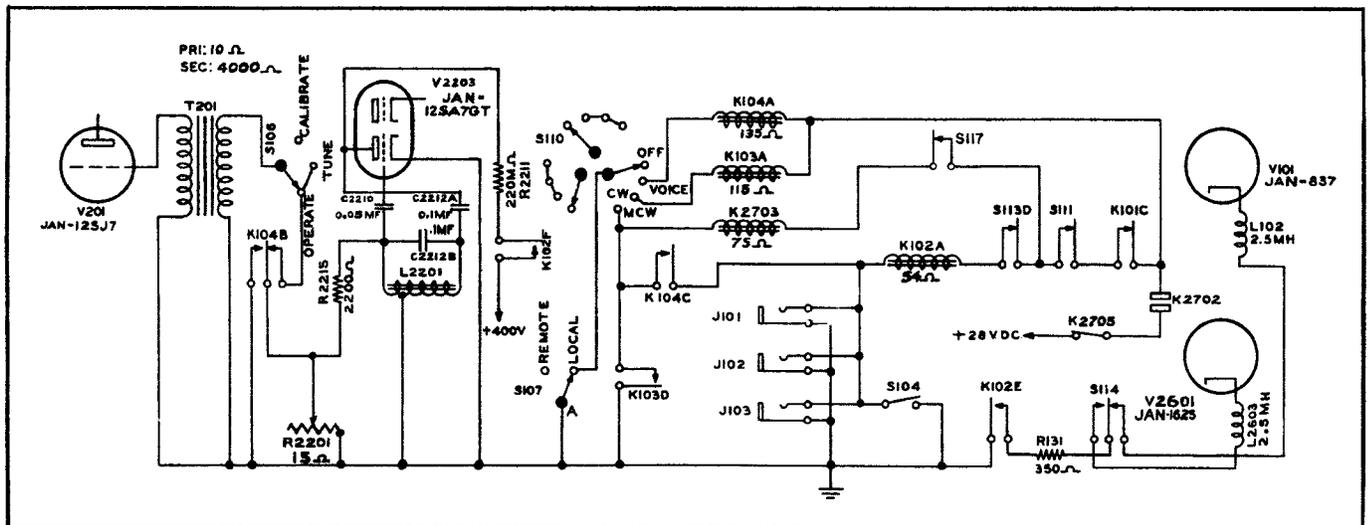

Figure 4-5. Emission Selection and Carrier Control Circuits
(1) The "EMISSION" selector switch S110 is a combination transmitter "ON-OFF" switch and "EMISSION" selector switch. Operating "EMISSION" selector switch S110 to the "VOICE," "CW" or "MCW" position will operate the primary contactor K2702 (see fig. 4-5). (Note: Refer to paragraph 2a, this section for detailed explanation of the operation of primary power contactor K2702.) Selecting "VOICE" emission by the operation of "EMISSION" selector switch S110 operates "VOICE" relay K104. "VOICE" relay contacts K104B disconnect the output of the "MCW" oscillator tube, V2203, from the input to the speech amplifier. "VOICE" relay contacts K104C connect the coil of dynamotor input relay K2703 to the emission control circuits of throttle